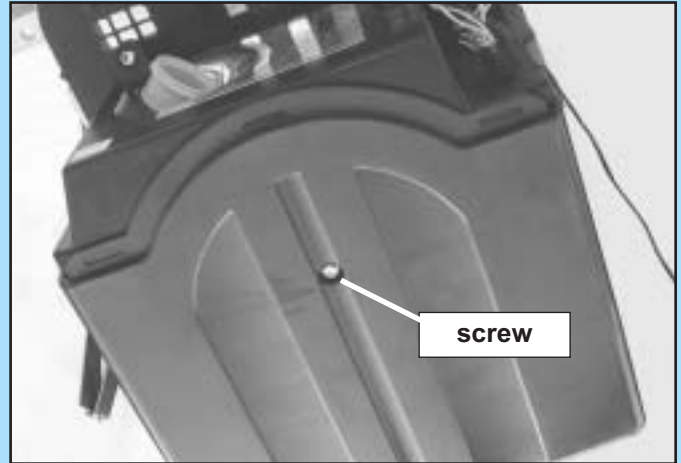

FIG. 6-1 Removing motor cover.
- Remove motor cover (Fig. 6-1).